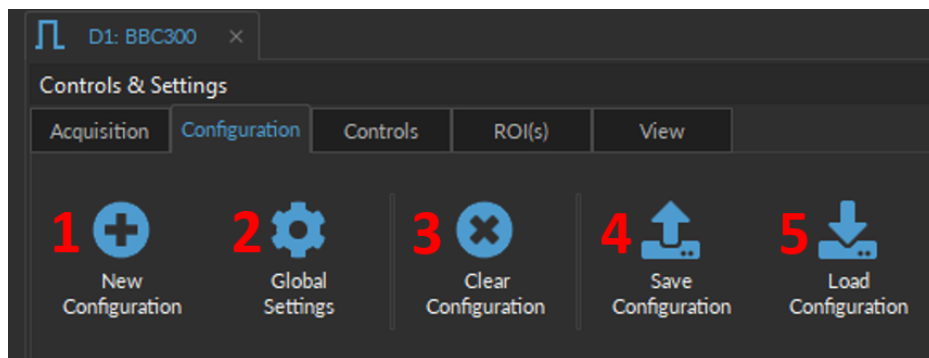
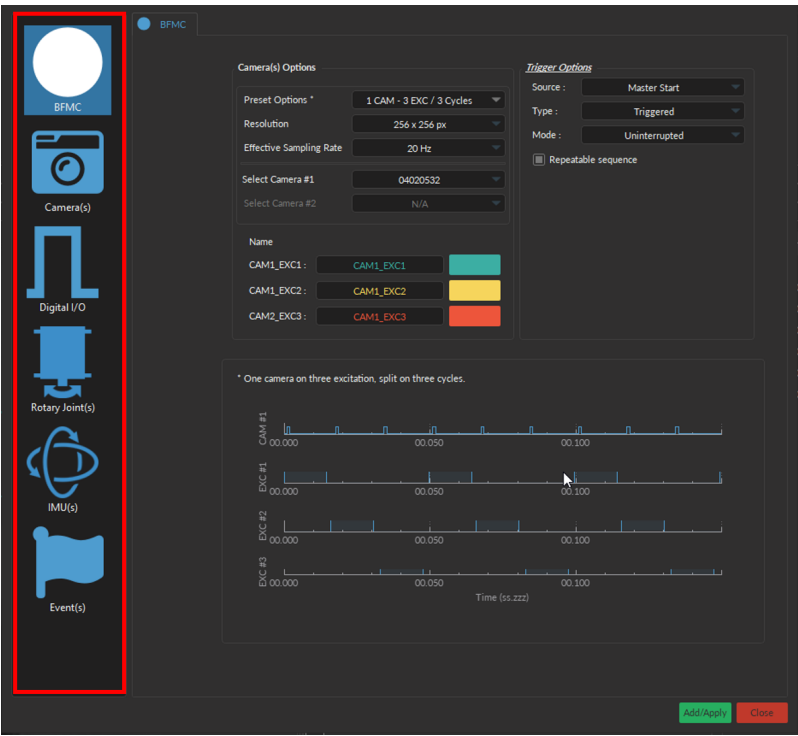

Figure 10.8: Configuration Tab
Figure 10.16: Channel(s) configuration window, select channel type
1. The **New Configuration** button (Fig. 10.8, 1) opens the **Channels configuration** window. How to *add* and *configure* a channel is detailed in Section 10.4. Table 10.1 describes different types of channels available, their use cases, and their individual sections.
2. The **Global Settings** (Fig. 10.8, 2) opens the **Global Options** window in Fig. 10.9, where user can set the acquisition sampling rate and specify the master trigger options. See Sections 10.3.2.1 for more details.
3. The **Clear configuration** button (Fig. 10.8, 3) resets the acquisition view and all other parameters set. Any configurations not saved will be lost.
4. The **Save configuration** button (Fig. 10.8, 4) allows a BBC300 configuration to be saved in the **.doric** format. This file preserves the current channel configuration/parameters, the Acquisition View window organization, and any custom trace colors and names.
5. The **Load configuration** button (Fig. 10.8, 5) imports a pre-configured **.doric** file into the module.
To create a new channel select the **New Configuration** button, which can be found under the **Configuration** tab (Fig. 10.8, 1). This opens the **BBC300 Configuration** window (Fig. 10.16), where users can select the type of channel.